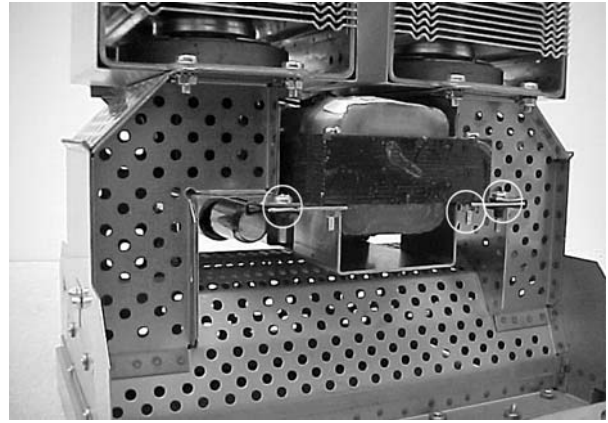

Figure 4-11 Transformer and Connector Bracket Removal
6. Remove the transformer and connector bracket by removing the three screws identified in Figure 4-11.